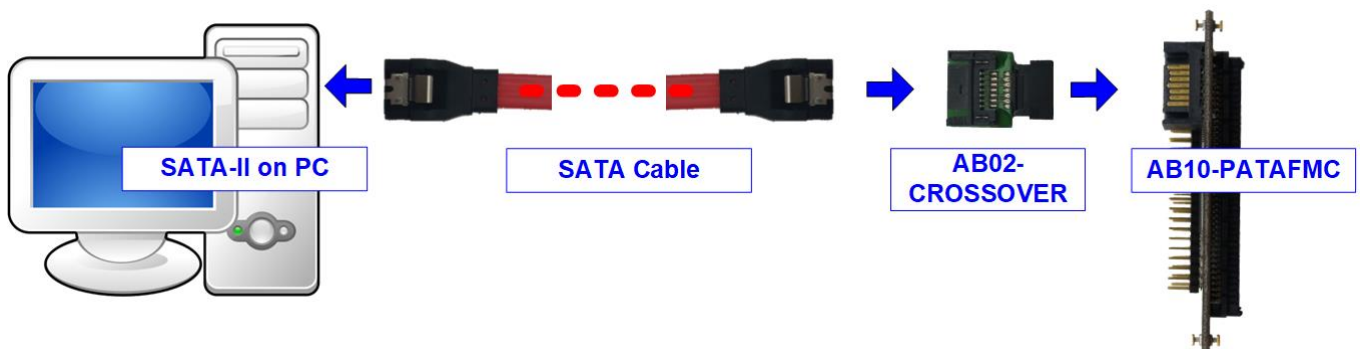

Figure 2-2 SATA connection between AB10 and SATA-II on PC
4. As shown in Figure 2-2, connect SATA cable to AB02-CROSSOVER and then connect to AB10-PATAFMC. After that, connect another side of SATA cable to SATA-II connector on PC.